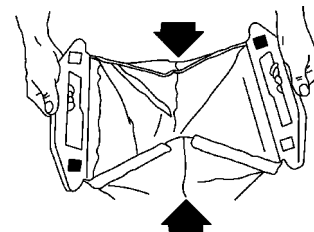

Figure 47
5. Close the rear of the bag by folding the sides in and pressing the interlocking rear handle halves together (Fig. 47).